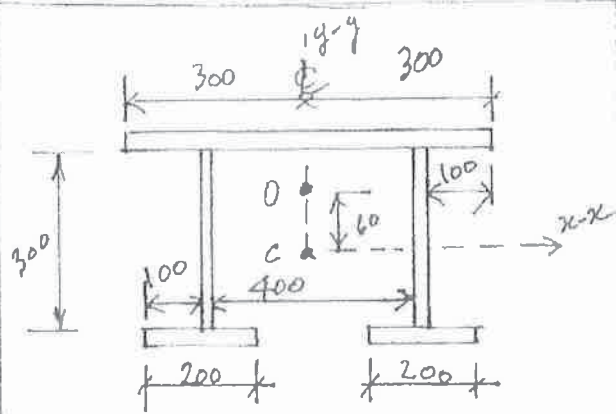

FIG. A2
- A2. Figure A2 shows a cross-section of a steel beam built-up from 25 mm G40.21-350W steel plates. Calculate the moments of resistance of the cross-section about the centroidal axes, x-x and y-y.